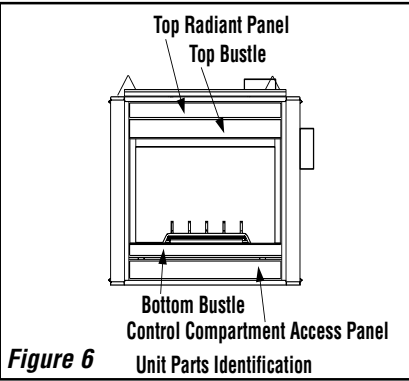

Figure 6
- 2 - Remove the top radiant panel (*see Figure 6*).